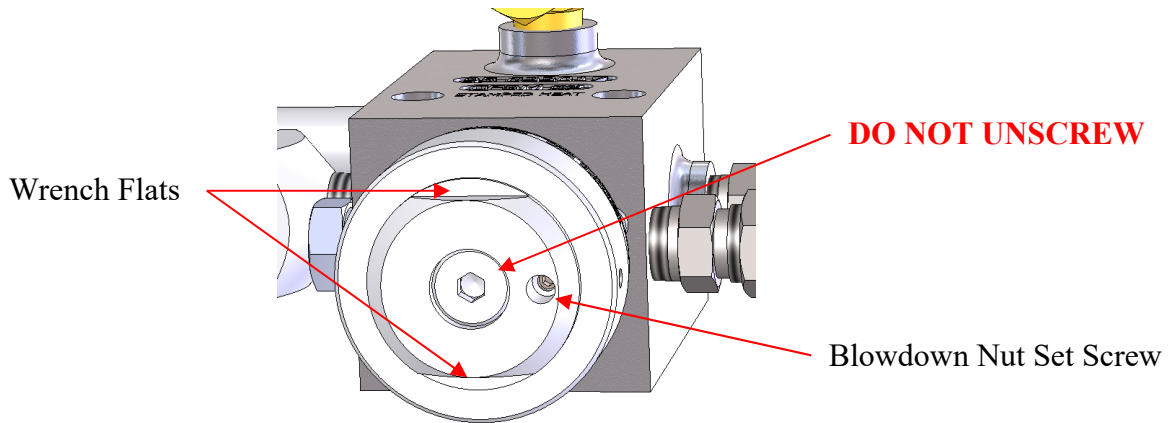

Figure 29: Set Screw on Bottom of Lower Cage
16. Remove the blowdown nut set screw on the bottom of the blowdown nut. See Figure 29.